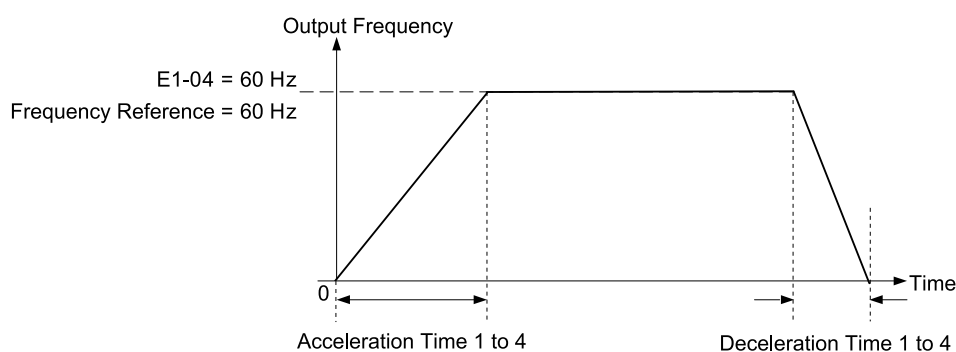
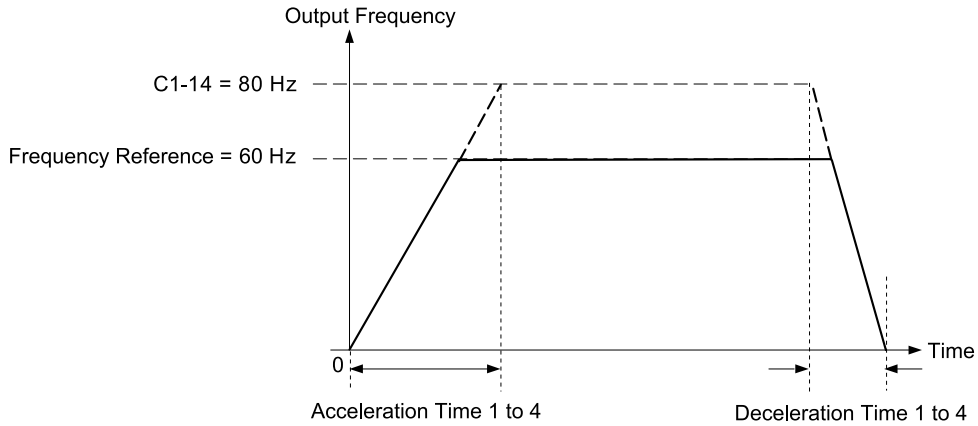

Figure 12.48 Example 1: Acceleration/Deceleration Rate (When C1-14 = 0 Hz, E1-04 = 60 Hz, and the Frequency Reference is 60 Hz)
Figure 12.50 Example 3: Acceleration/Deceleration Rate (When C1-14 = 80 Hz, E1-04 = 60 Hz, and the Frequency Reference is 60 Hz)
- Figure 12.48 to Figure 12.50 show the accel/decel times when C2-01 to C2-04 [S-Curve Times @ Start/End of Accel/Decel] = 0.00 s.